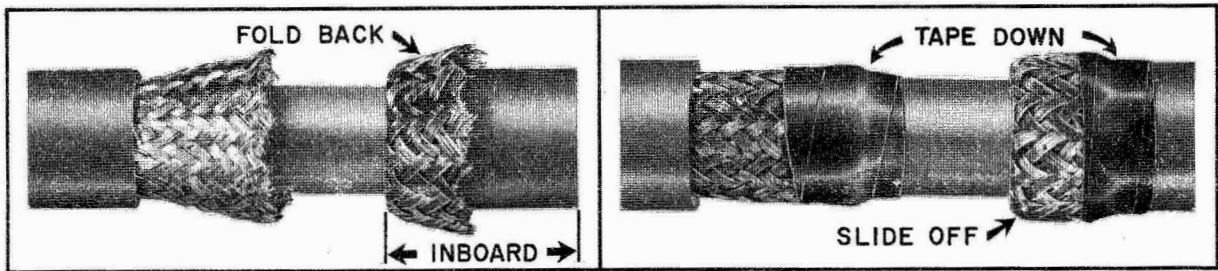

Figure 5-8f. Removing Braid and Jacket
at midpoint with sharp scissors and fold the braid back onto the jacket of the inboard section and tape down (see figure 5-8f). Slide the inboard section of the outer braid and jacket off the cable dielectric. Save this for replacement on the dielectric when completing the assembly of the pressureproof fitting on the inboard side (step 10). In the case of cables having two outer conductor braids, remove the inner braid and discard it.
Step 5. - Smooth down the braid remaining on the outboard cable and tape tightly against the dielectric using a minimum of tape (see figure 5-8f).